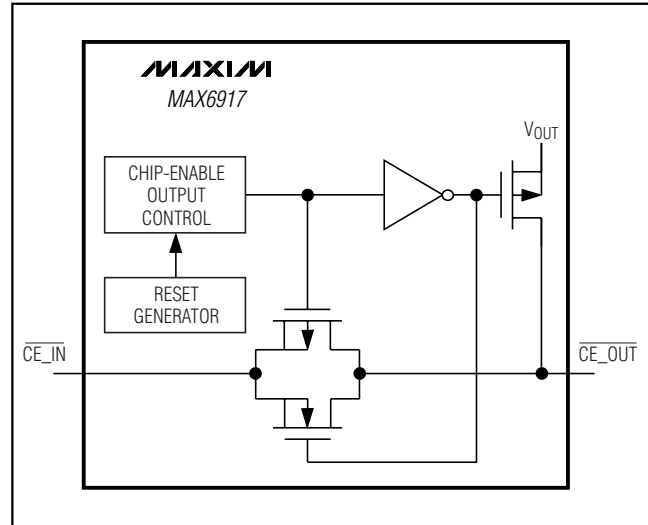

Figure 14. Chip-Enable Gating
Internal gating of chip-enable (CE) signals prevents erroneous data from corrupting external SRAM in the event of an undervoltage condition. The MAX6917 uses a transmission gate from  $\overline{CE\_IN}$  to  $\overline{CE\_OUT}$  (Figure 14). During normal operation ( $\overline{RESET}$  inactive), the transmission gate is enabled and passes all CE transitions. When reset is asserted, this path becomes disabled, preventing erroneous data from corrupting the external SRAM. The short CE propagation delay from  $\overline{CE\_IN}$  to  $\overline{CE\_OUT}$  enables the MAX6917 to be used with most  $\mu$ Ps. If  $\overline{CE\_IN}$  is low when reset asserts,  $\overline{CE\_OUT}$  remains low for  $t_{RCE}$  to permit completion of the current write cycle.
When the CE transmission gate is enabled, the impedance seen at  $\overline{\text{CE\_OUT}}$  is equivalent to a  $46\Omega$  (typ) resistor in series with the source driving  $\overline{\text{CE\_IN}}$ . In the disabled mode, the transmission gate is off and an active pullup connects  $\overline{\text{CE\_OUT}}$  to  $V_{\text{OUT}}$  (see Figures 14, 16). This pullup turns off when the transmission gate is enabled.